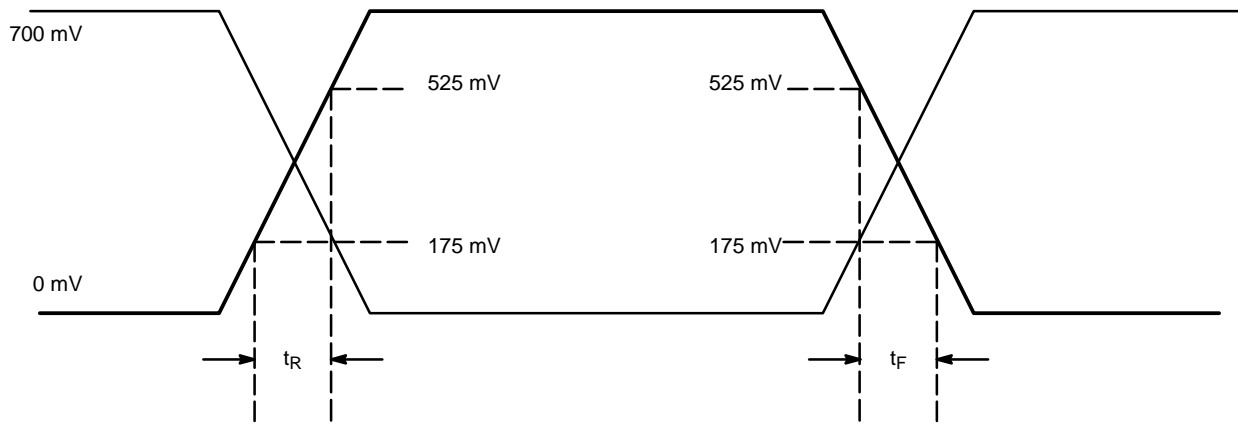

Figure 11. HCSL Output Parameter Characteristics
18. VDDXD and VDDODA power pins must be shorted to power supply voltage V_{DD} and GNDXD and GNDODA ground pins must be shorted to power supply ground GND. Measurement taken from differential output on single-ended channel terminated with $R_S = 33.2 \Omega$, $R_L = 50 \Omega$, with test load capacitance of 2 pF and current biasing resistor set at 475Ω . See Figure 11. This parameter is guaranteed by characterization. Not tested in production.